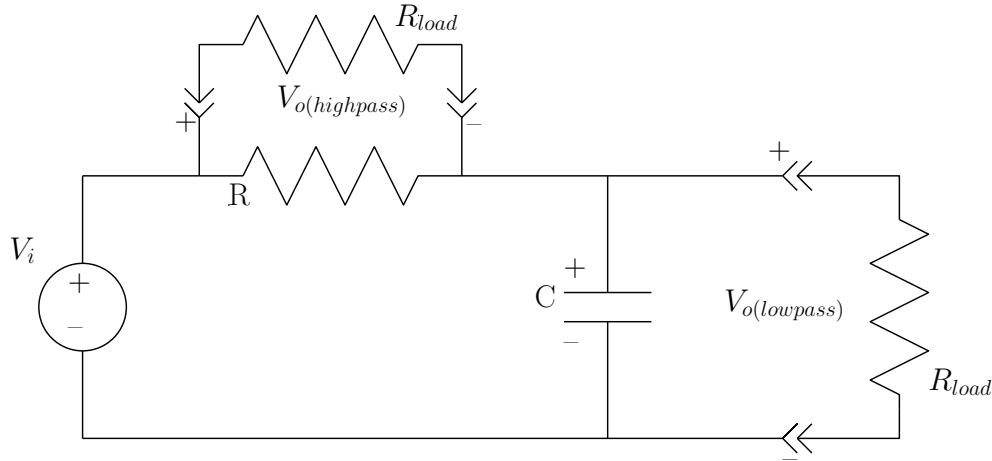

Figure 7.3: Hi-pass and Low-pass filter loading.
2. The frequency at which half-power is obtained is known as the cutoff frequency. This is an important number for any filter. Indicate the cutoff frequency on your plot. To better understand where the power is being dissipated, consider Figure 7.3 which shows the same circuit as in Figure 7.1 but with load resistors added to the low-pass output and high-pass output. It is across these resistors that the power is dissipated. [LR 8]